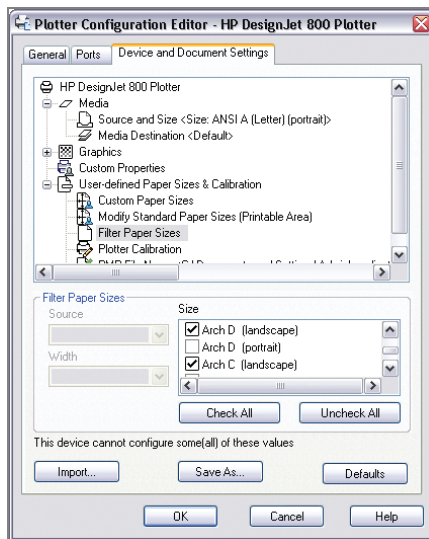

FIGURE 14.5 Filtering out all unused paper sizes
8. Select the Device And Document Settings tab, and then select the Filter Paper Sizes node in the Plotter Configuration Editor dialog box that appears. Click the Uncheck All button. You should filter the list of paper sizes to display only the sizes you use. Scroll down the list, and select the following paper sizes: Arch C (landscape) and Arch D (landscape). Figure 14.5 shows the result.